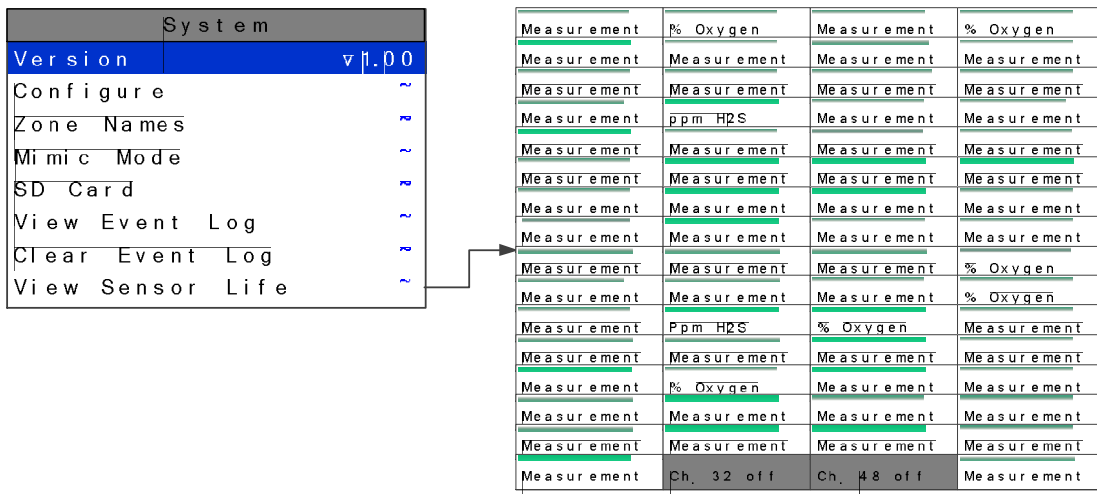

Figure 2-37
**Sensor Life** is available when at least one channel has **Sensor Life** activated in the **Marker menu** (see section 2.4.4.5). The **Sensor Info** screen displays each channel's sensor status as illustrated in Figure 2-37. Channels with **Sensor Life** disabled are indicated by **Ch. # Disabled** below the bar. **Cal Required** indicates no Calibration Marker value has been received by the C64.